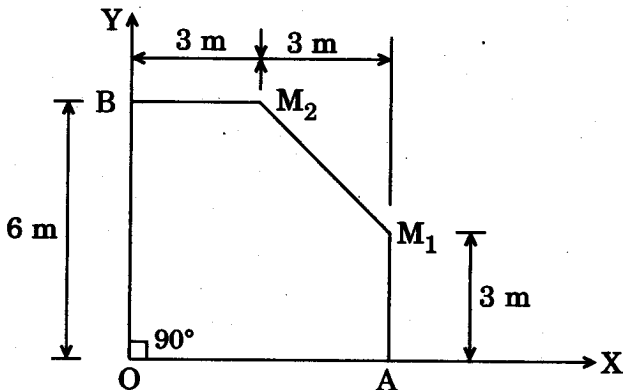

Figure 3
- (b) Determine the centroid of an area shown in Figure 3.